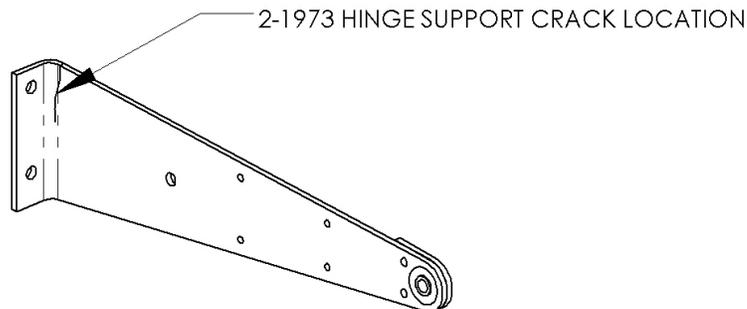

Figure 4, Hinge Support Hinge Locations
7. Visually inspect hinge support for cracks as shown in figure 4 (2 locations per wing). The cracks may originate from the upper or lower edge of the support and propagate along the bend line. Inspection should also include the bolt locations at the rear spar. Use a mirror to inspect opposite side of the hinge supports. Inspection of the opposite side of the middle hinge support is difficult but possible by locating the mirror above and immediately outboard of the support.